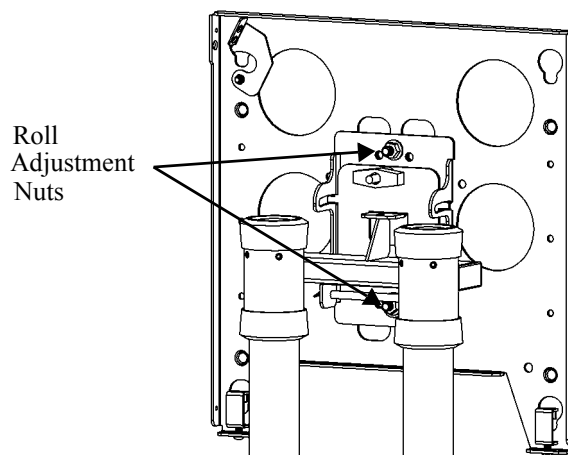

Figure 10. Adjust Yaw
1. Loosen two nuts on back of mounting plate (see Figure 10).
3. Tighten two nuts (see Figure 10).